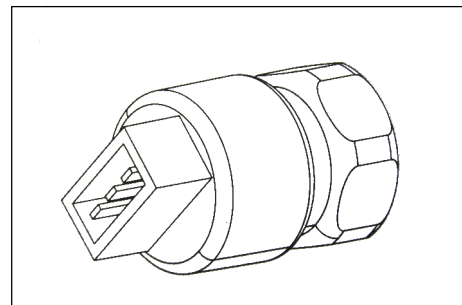

Figure 6-3
3. Mount the vehicle speed sensor (see Figure 6-3).